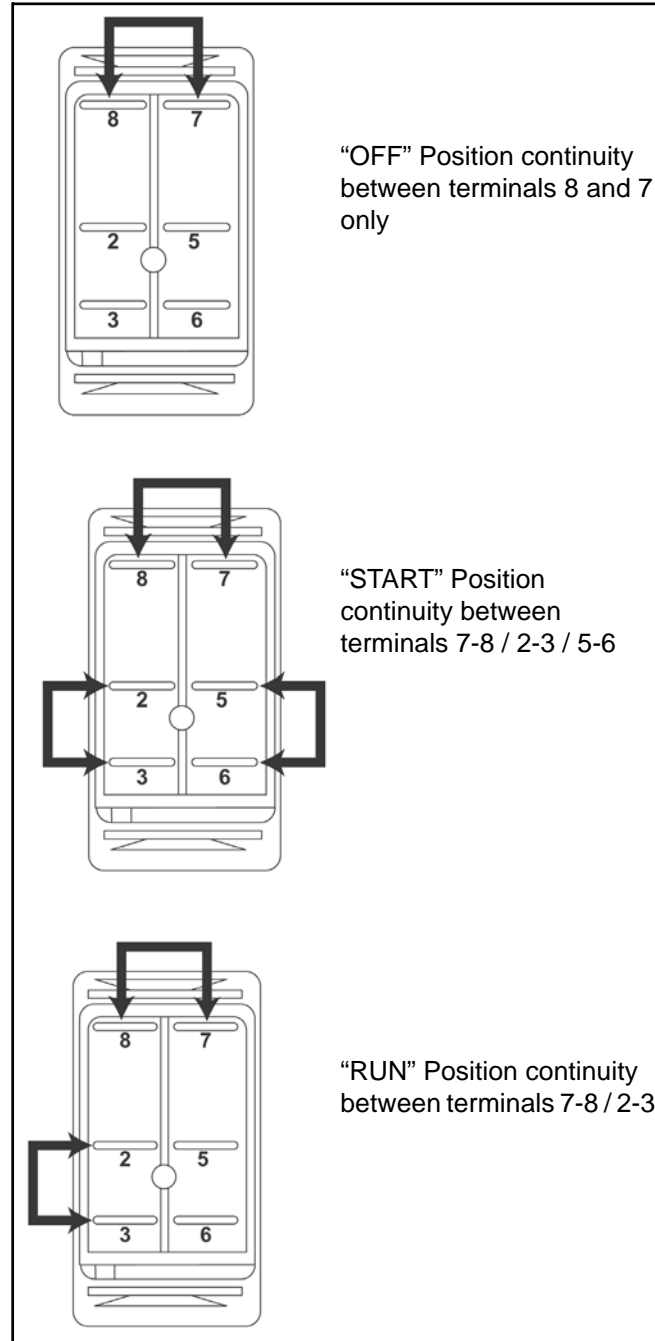
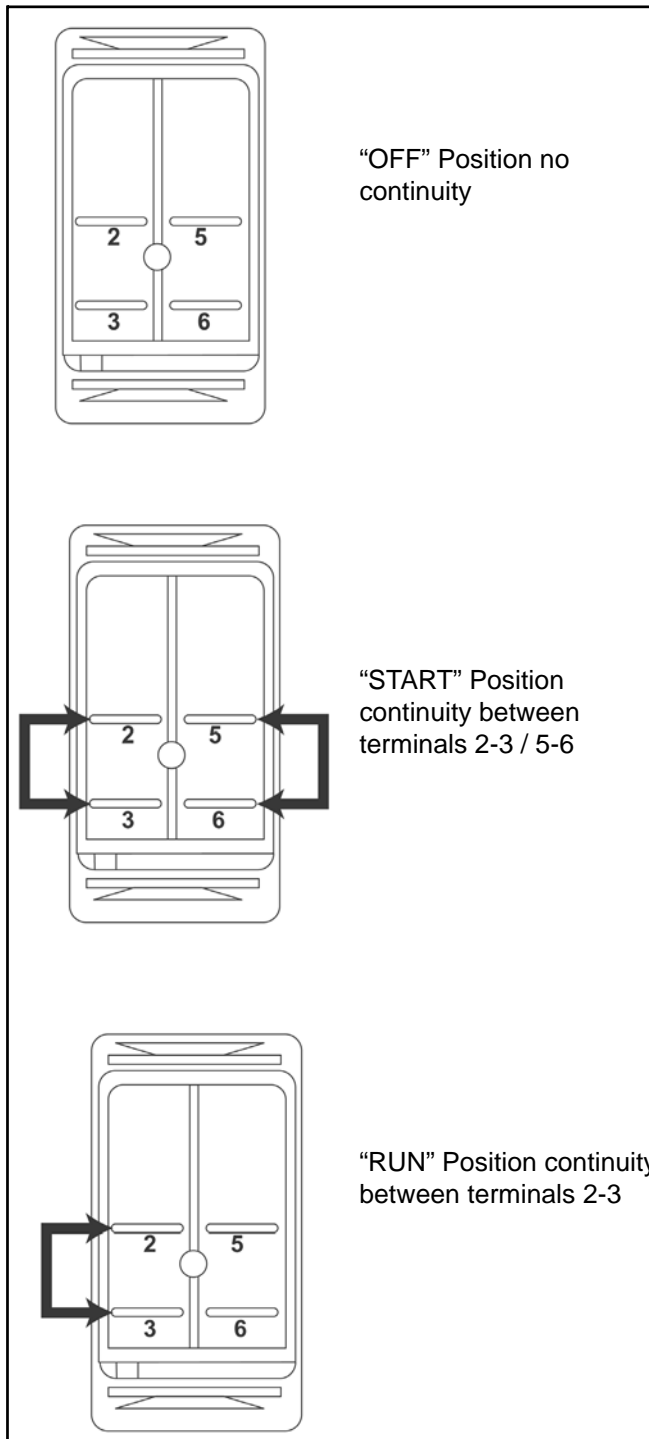

Figure 25
Figure 26
2. Using a VOM or test lamp, test the continuity of the terminals using the following diagrams (Figure 25 and Figure 26).